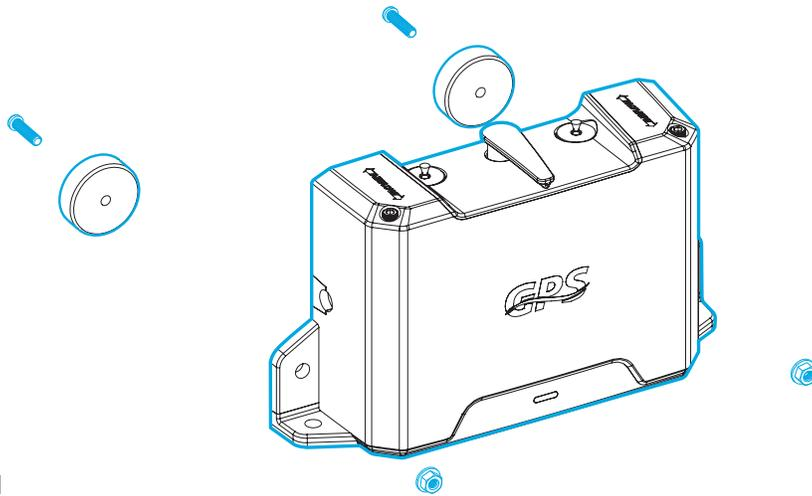
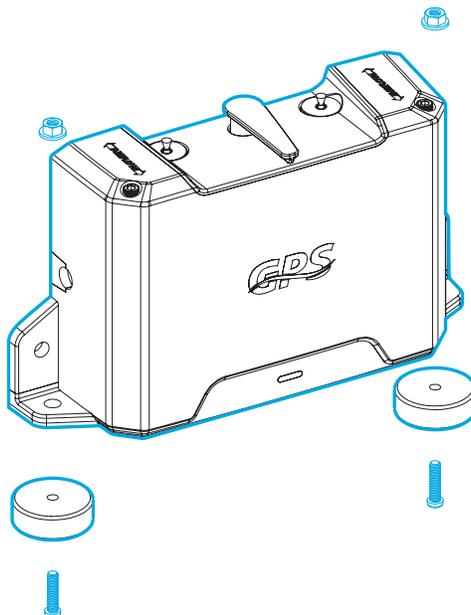

Figure 1
Figure 2
2. Mount the magnets to the PF-i using included hardware. See figure 1 and figure 2.